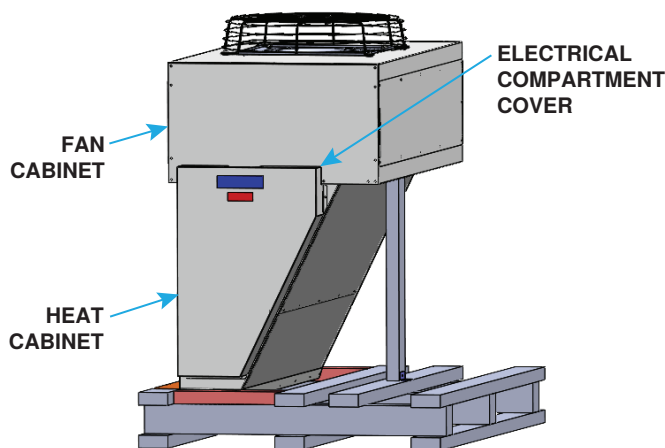

Figure 3. Shipping Pallet with Unit
1. Remove screws that secure electrical compartment cover to unit and remove cover (see Figure 3).